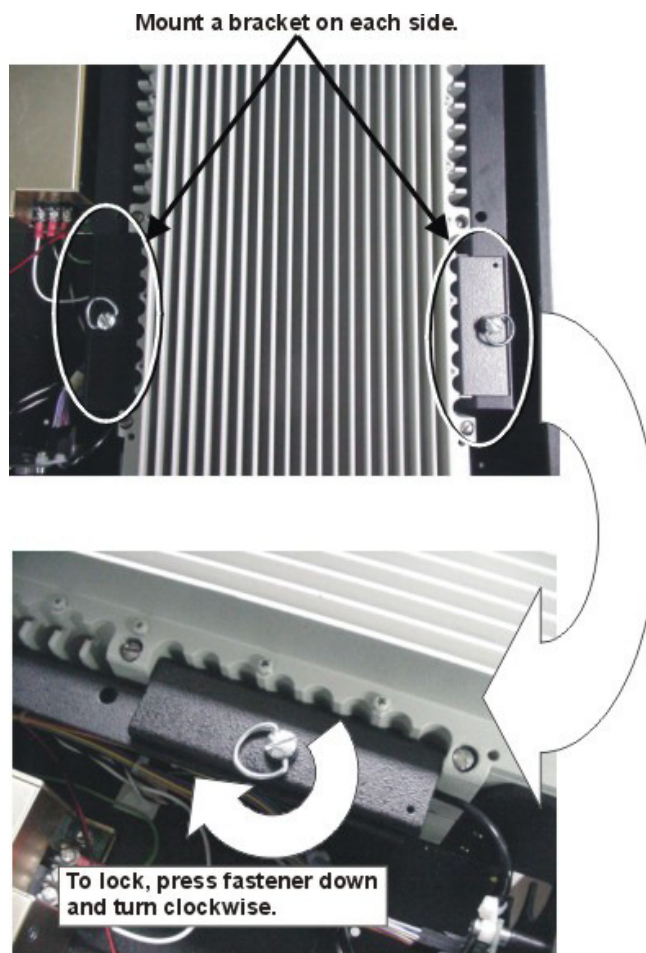

Figure 3-6: Locking the Mounting Brackets
3.2.6 Lock bracket into place by pressing down on fastener and turning it clockwise. Repeat process for other side of ChannelMaster. (Refer to Figure 3-6.)